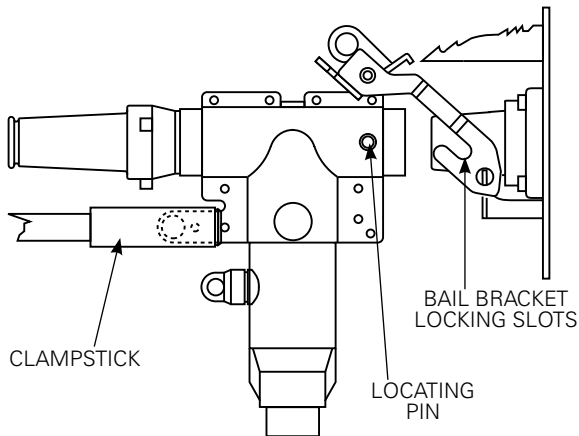
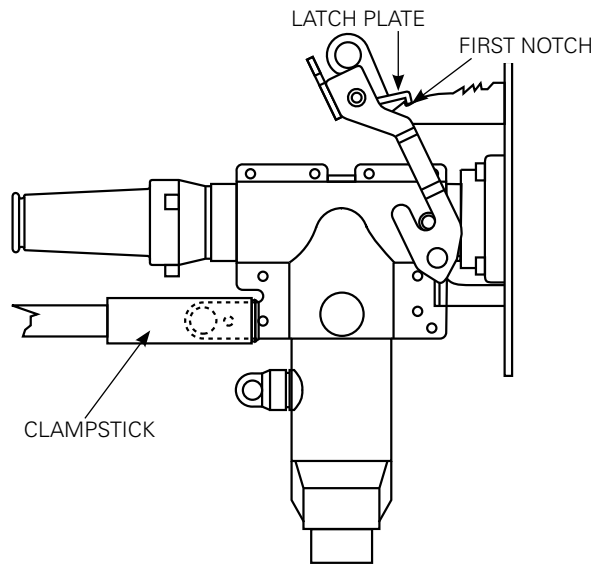

Figure 16. Line illustration of moving terminator to bushing.
Figure 17. Line illustration of beginning engagement of latch plate.
- Move terminator to apparatus bushing, engaging shroud locating pins in bail bracket locking slots (refer to Figure 16), and push until latch plate engages first notches. (Refer to Figure 17.)